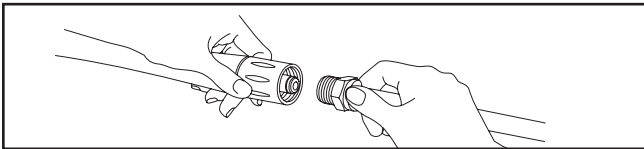

Figure 28- Attaching Turbo Nozzle to Spray Gun
3. Attach turbo nozzle extension to spray gun (Figure 28). Tighten by hand.